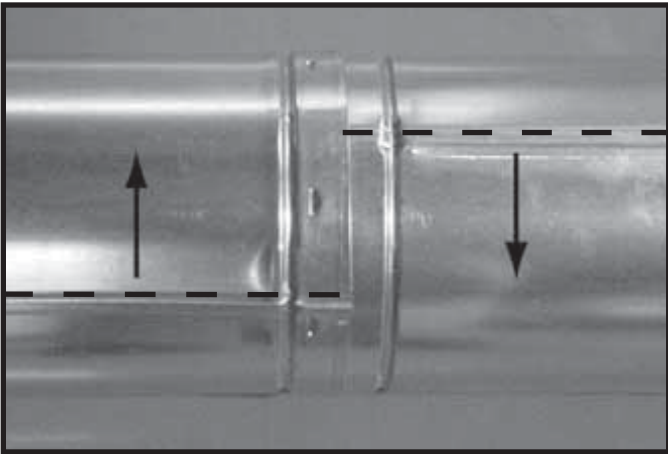

Figure 10.9 Rotate Seams for Disassembly
- Rotate either section (see Figure 10.9) so the seams on both pipe sections are aligned as shown in Figure 10.10.